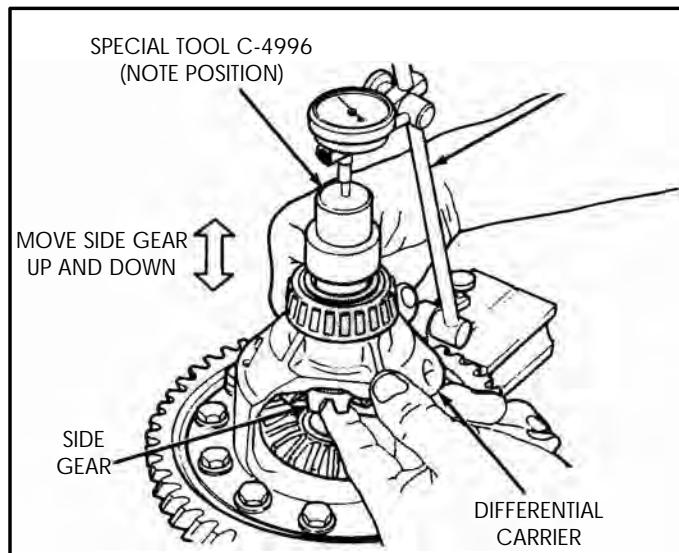

Figure 154
8. Set up the dial indicator and special tool, as shown in Figure 154.
9. Move the side gear up and down, as shown in Figure 154, and record end play. Side gear end play should be .001" to .013". There are four different thickness washers available from your dealer: .032", .037", .042" and .047".